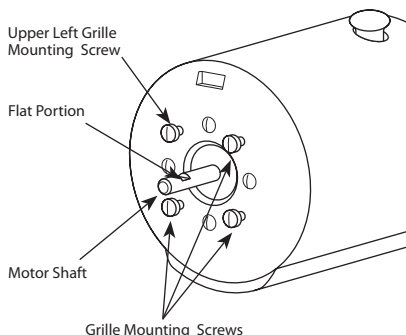

FIGURE 5
15. Remove the upper left Grille Mounting Screw from the Motor Face. See Figure 5. Loosen the three remaining Grille Mounting Screws.